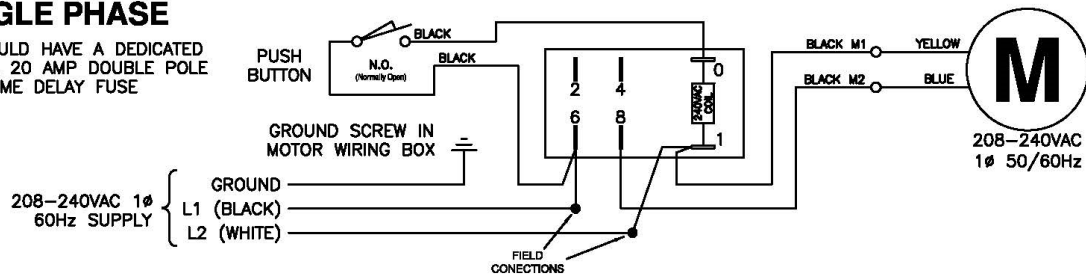

Fig 22 – NON-STANDARD 230V WIRING DIAGRAM
- 37) Connect the power unit to a suitable electrical power source. The standard power unit is 115-volt 50/60 Hz single phase requiring a dedicated single throw circuit breaker to operate lift at full capacity. For 230V power unit, refer to **Fig 22**.